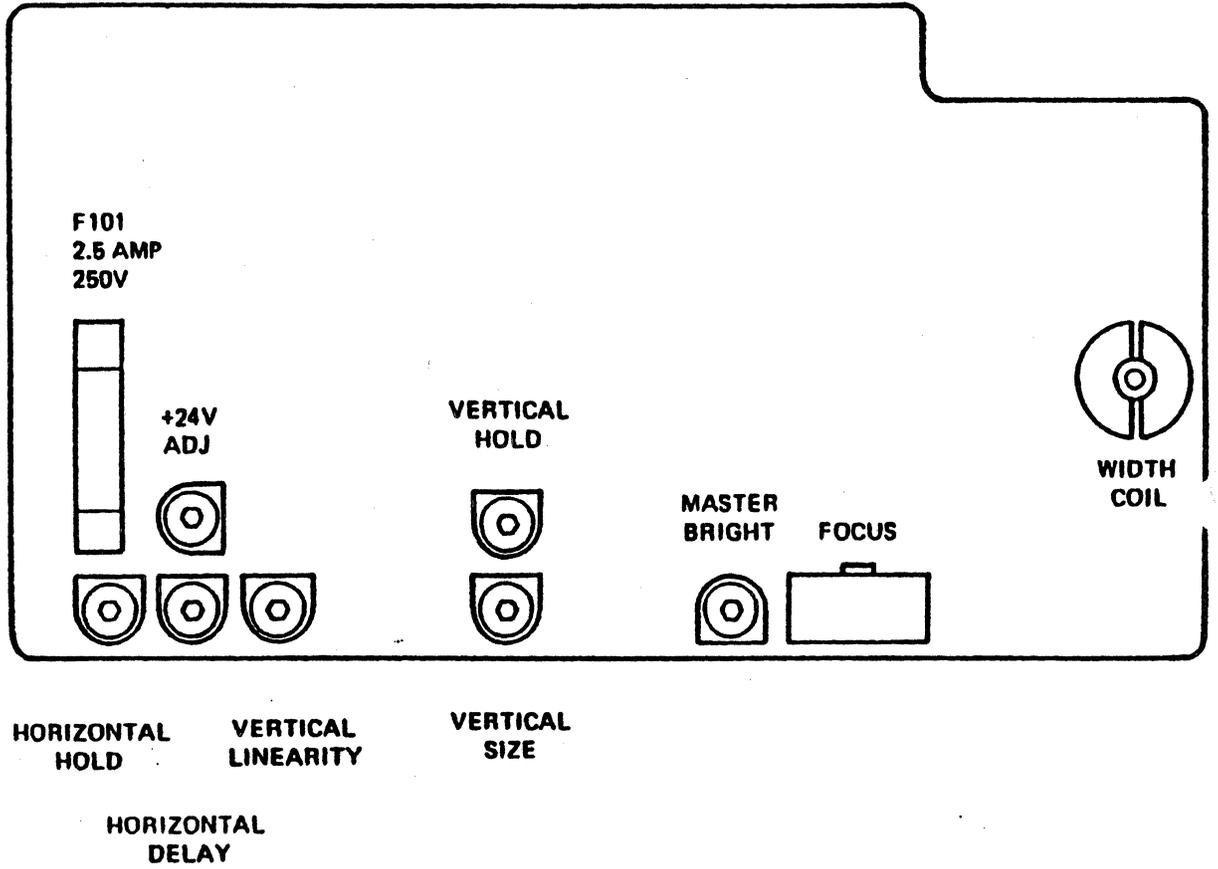

FIGURE 12: CRT ADJUSTMENT POINTS
The following procedures apply to all adjustments on the CRT module assembly. Refer to Figure 12 for the locations of the adjustment controls.
- a. Connect a digital voltmeter across ground and the case of output transistor Q101. Refer to Figure 12 CRT Adjustment Points.
- a. Rotate the master brightness control on the CRT board fully counterclockwise (raster off). Refer to Figure 12.
- a. Horizontally synchronize the video image by adjusting the horizontal hold control on the CRT board until a steady image is obtained. Refer to Figure 12.
- b. Center the video image horizontally by adjusting the horizontal delay control on the CRT board, until the image is properly centered. Refer to Figure 12.
- a. Adjust the horizontal image size by rotating the horizontal width coil adjustment on the CRT board. Refer to Figure 12.
- a. Adjust the vertical size of the video image using the vertical size control on the CRT board, until the vertical video image size is 6 inches. Refer to Figure 12.
- b. Adjust the height of the test pattern characters in the top and bottom rows using the vertical linearity control on the CRT board, until the top and bottom row characters are the same height as those in the center row. Refer to Figure 12.
- a. Adjust the video image focus for optimum sharpness using the focus control on the CRT board. Refer to Figure 12.